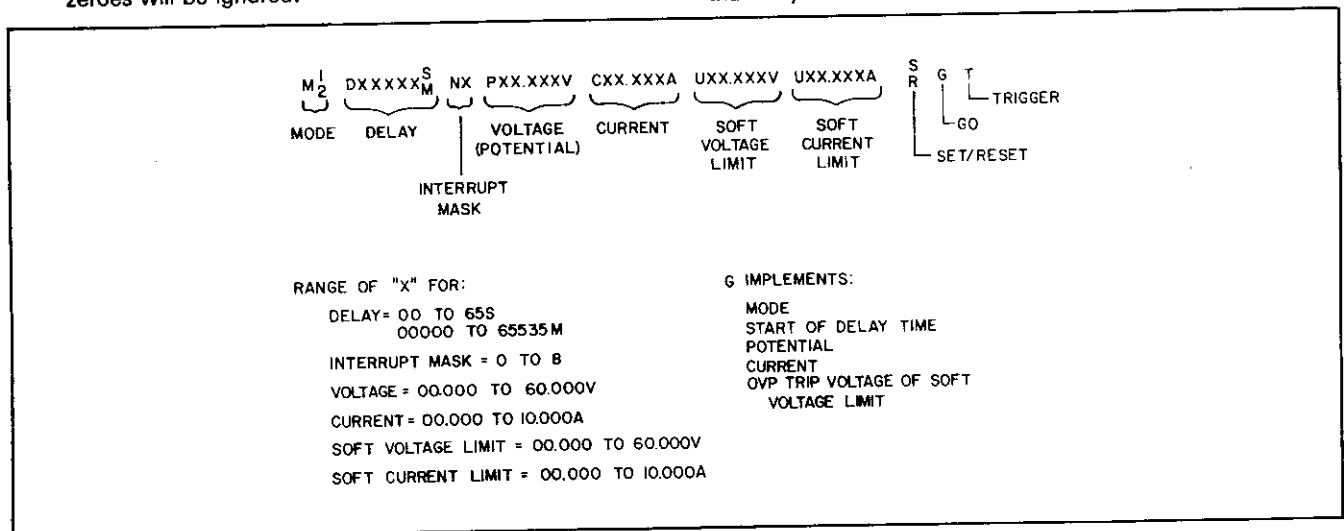

Figure 3-13. Programming Syntax
3-104 Figure 3-13 shows a full programming string for the 6034A power supply. Paragraphs 3-106 through 3-131 describe each of the commands in the programming string. The letters used to program each of the commands are printed in **boldface** type in the following paragraphs. When referring to Figure 3-13, it should be remembered that:
6. Numbers that are not within the ranges listed in Figure 3-13 will invalidate the command.